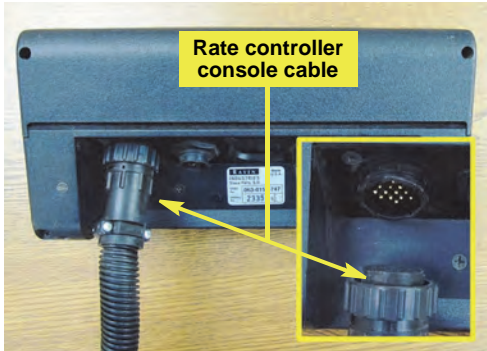

Figure 1b-i: Disconnecting controller console cable
- b. Disconnect the console cable from the back of the existing rate controller (Figure 1b-i). Connect the console cable to interface cable **A** (Figure 1b-ii).